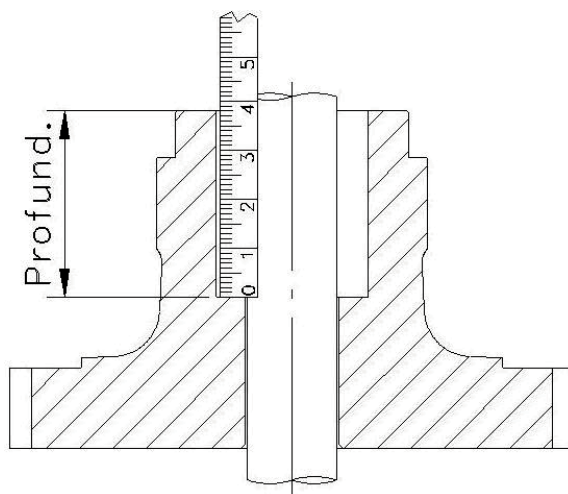

Figure 3 – Depth of Stuffing Box
- 1 - To determine the correct number of rings to fill the stuffing box, measure its depth (see Figure 3);